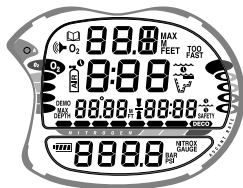

Fig. 13 - Diagnostic Mode
- Upon manual activation, the unit will enter Diagnostic Mode (Fig. 13), displaying all segments of the LCD (as 8's), followed by dashes, then a countdown from 9 to 0. The Backlight will be on.